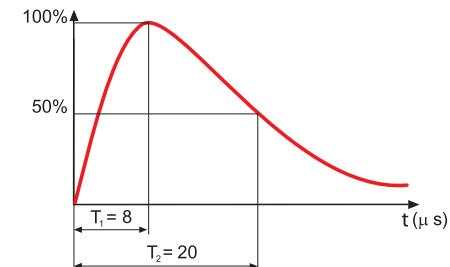

Figure 6: 8/20  $\mu$ s current waveform
**Uoc:** test voltage. This is the peak value of the no load voltage of the combined test-generator; this has a waveform of 1.2/50  $\mu$ s (figure 7) and can supply at the same time current with waveform 8/20  $\mu$ s (figure 6).